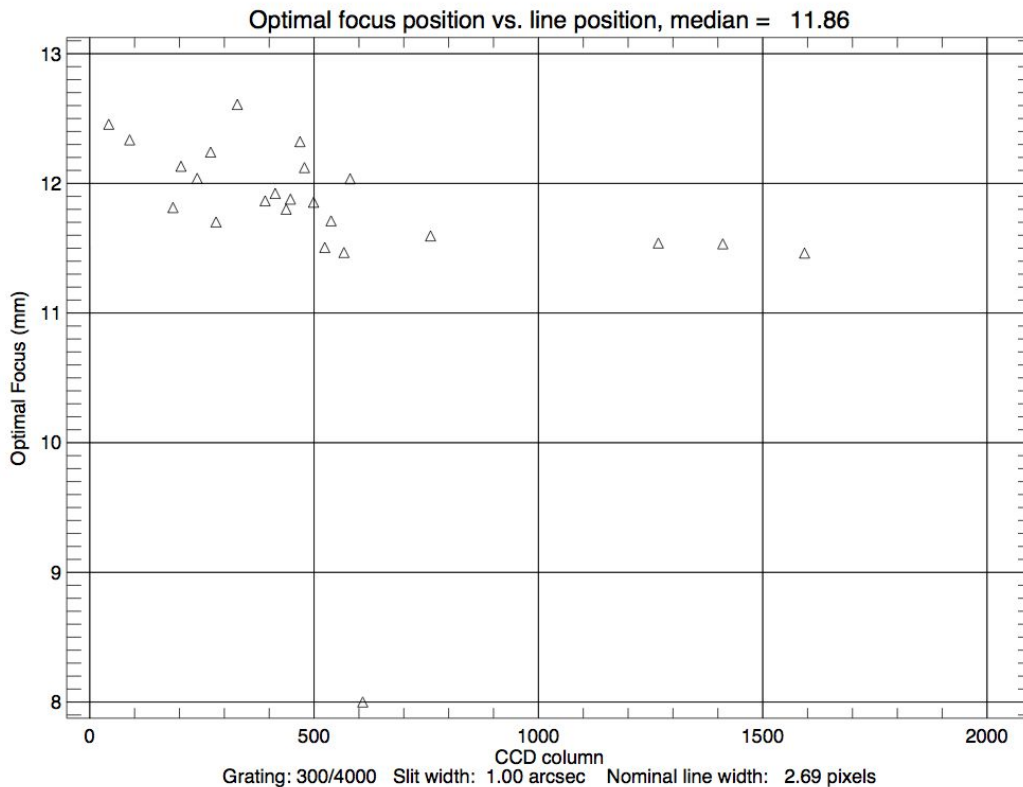

Figure 8. Example optimal focus vs. line position curve for the 300 g/mm grating. The median value is 11.9 mm.
6. Update the telemetry. This is done by moving one part of the instrument (e.g. changing the slit width, the grating tilt or the collimator focus) and/or entering a grating identification. Items 4 and 5 marked in red in Figure 8.
- g. In this directory start IDL and run 'dfocus': IDL> dfocus. In about 15 s a window will appear that shows the distribution of nominal focus vs. column (see Figure 8), and the median value is printed in the title. If the result looks good (fairly flat distribution, often higher at the left), set the collimator focus to the median value. (A full output of the focus analysis is saved in the file 'deveny.xx.xx.ps' file in the focus directory, where one can examine the focus curves in detail to see if the range needs to be extended).